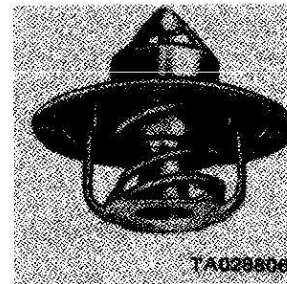

Figure 2-57. Thermostat.
a. General. The thermostat (figure 2-57) is activated by a pellet containing a wax mixed with copper. As the temperature of the pellet increases, the wax expands and opens the valve. The standard thermostat opens at 185° F.
(1) Drain the cooling system.
(2) Remove the upper radiator hose from the thermostat housing.
(3) Remove the thermostat housing bolts.
(4) Remove the thermostat and housing.
(5) Clean the old gasket off the housing and intake manifold.
(6) For thermostat installation, reverse the above procedures, using a new gasket.